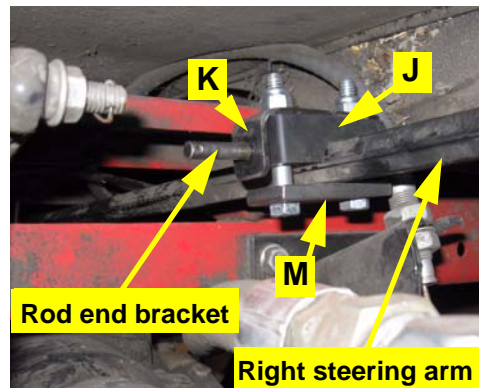

Figure 5d: Steering rod bracket location
- c. Mount the cylinder rod bracket **K** and bottom bracket **M** to the right steering arm using the provided plastic clamp **J** with hardware **N** near the back of the steering arm (Figure 5d).